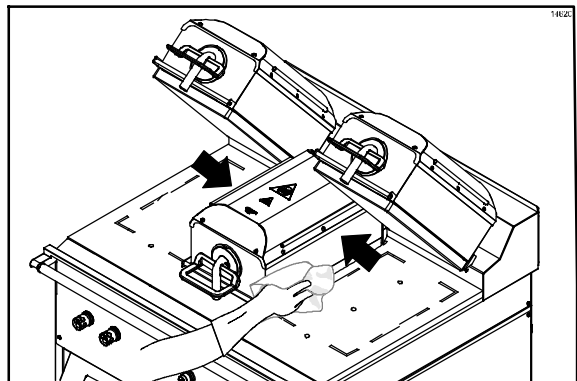

Figure 63
34. Rinse both sides of the center platen. (See Figure 63.)